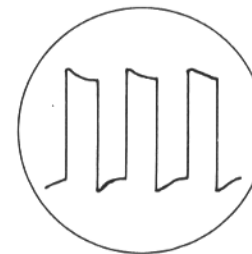

FIG 25
-fig 25 - Frequency unstable under keying effects. Just like chirp in CW;